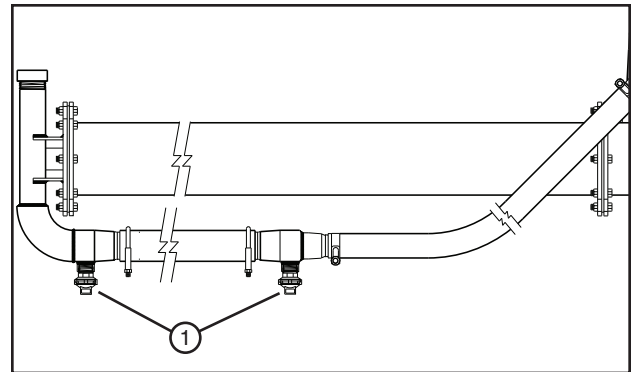

Figure 105-1 1. Booster Pump Hose Drain
- Make sure the booster pump hose drain is not plugged with sand or debris and the hose is completely drained See figure 105-1.